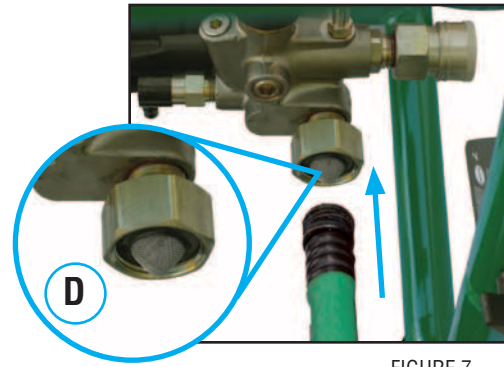

FIGURE 7
1. Inspect garden hose water inlet screen (D) for damage. (See Figure 7) Clean screen if it contains debris or have it replaced if damaged.
3. Turn off water supply and attach garden hose to water inlet. Tighten by hand. (See Figure 7)